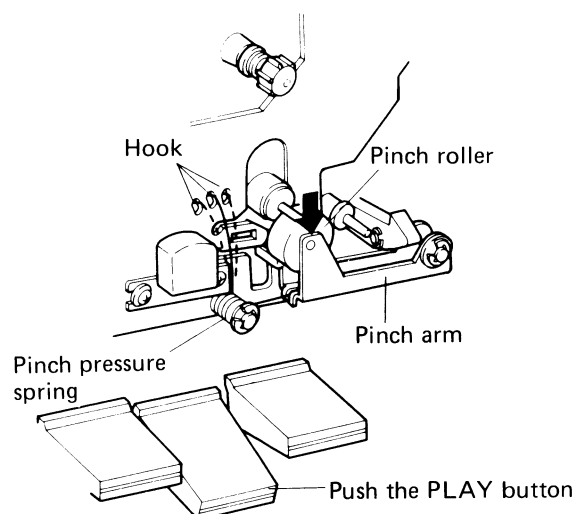

Fig. 34
1. Push the PLAY button, push a tension gauge (500g/full scale) against the part indicated by the arrow in Fig. 34, push the pinch roller away from the capstan (about 1–2mm) and slowly return the pinch arm and measure the torque at the point at which the pinch roller begins to rotate.
3. When the pinch roller pressure is still outside the 280g–360g range even after the adjustment of item 2 above, replace the pinch pressure spring (RBH-278).